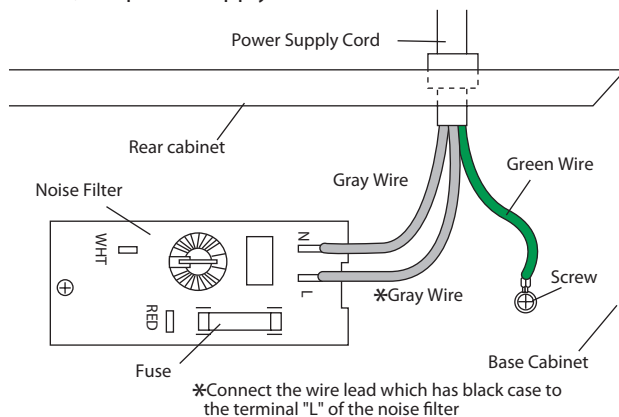

Figure C-3(a) Power Supply Cord Replacement
6. Release the moulding cord stopper of the power supply cord from the square hole of the rear cabinet, referring to the Figure C-3(b).